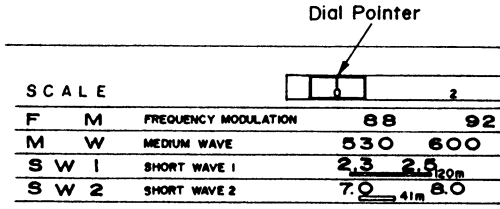

Fig. 13
- Line up the dial point in the front cabinet assembly with the "0" point graduation as shown in Fig. 13.